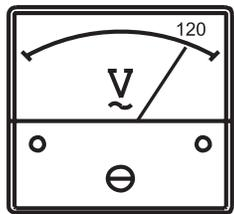

Figure 30. Voltmeter
7. The generator's AC-voltmeter (Figure 30) will display the generator's output in **VOLTS**.